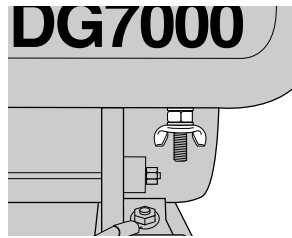

FIGURE 1: GROUNDING PLUG
1. Locate the ground plug below the generator control panel (shown in figure 1).